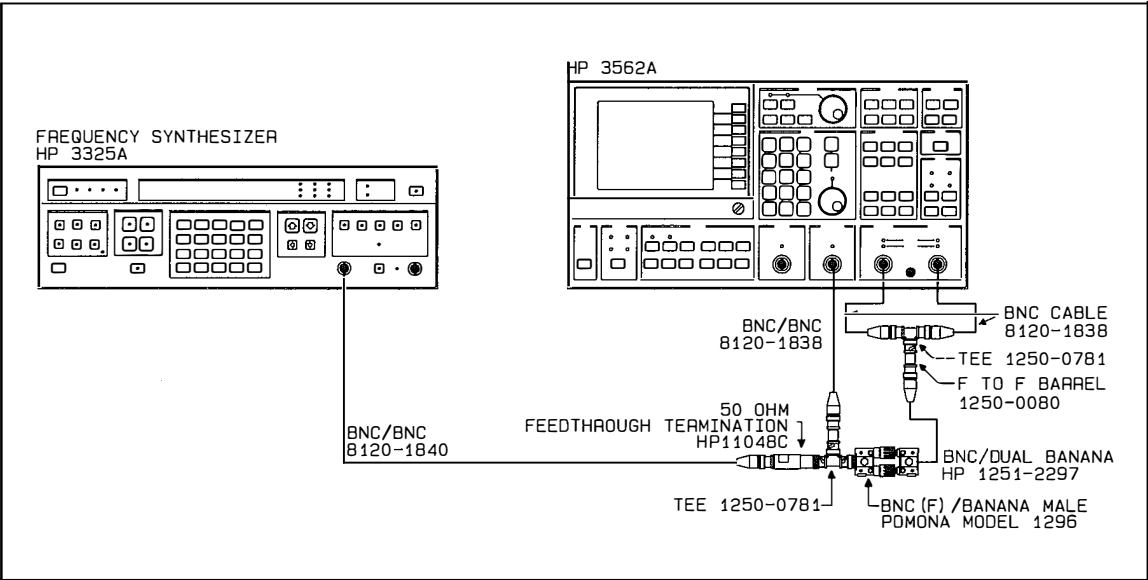

Figure 2-18 Single Channel Phase Accuracy Test Setup
- A. Connect the test instruments as shown in figure 2-18. Refer to “Initial Equipment Setup”, paragraph 2-20, for unspecified parameters.